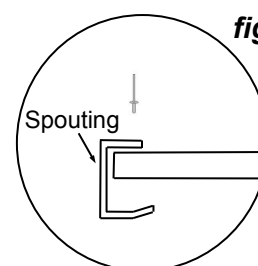

fig.4
- Place spouting in position and rivet to Barge Flashings at each end and rivet to roof sheets (1 rivet per 1 sheet) (fig.4).